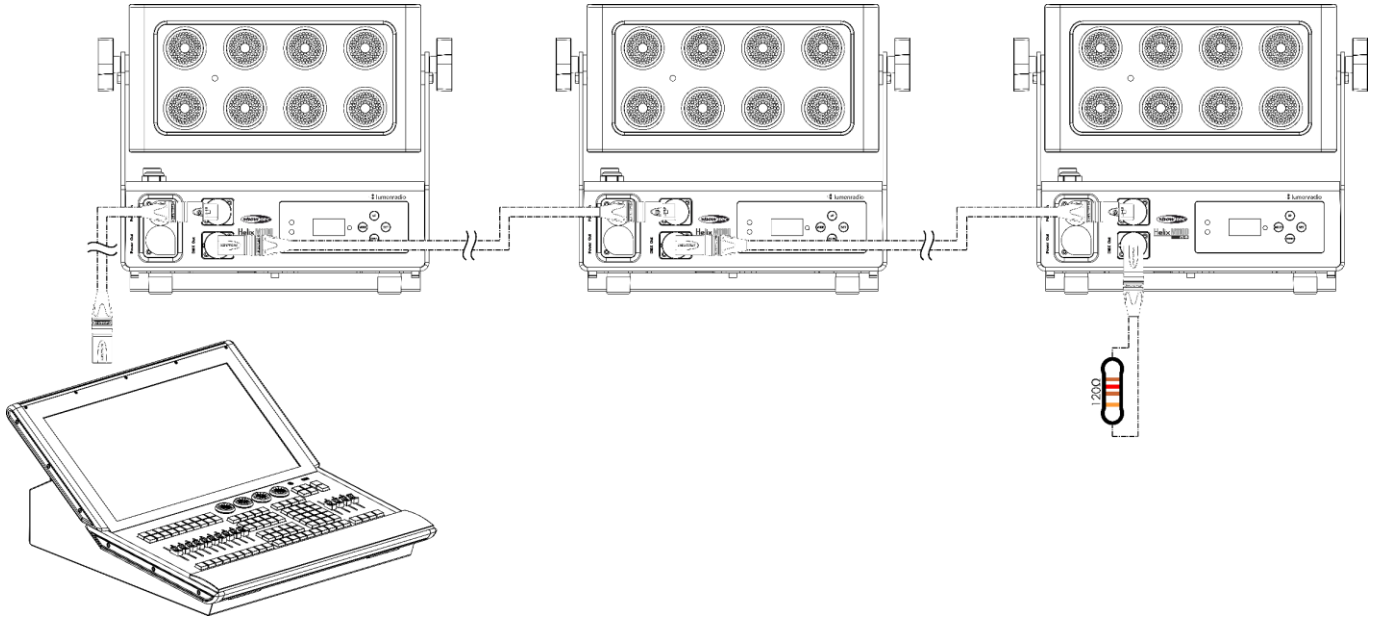

Fig. 18
- 03) Repeat step 2 to connect all devices in a daisy-chain as shown in Fig. 18.